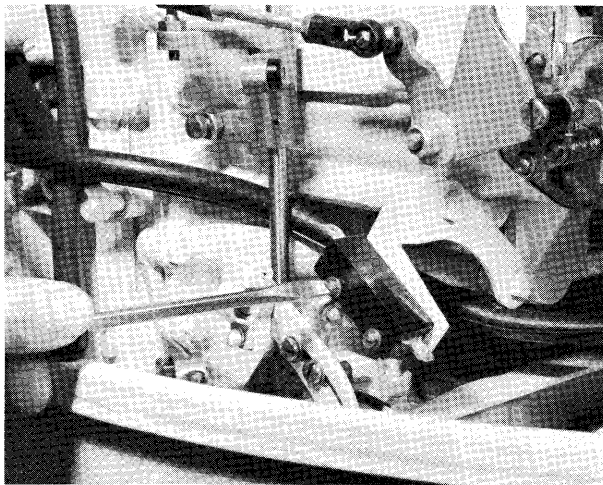

Figure 1 - Removing Interlock Switch
- A. Remove two (2) screws and lockwashers securing lead wires to each end of interlock switch.
- B. Remove two (2) screws and plain washers securing interlock switch to interlock mounting bracket and remove switch. See figure 1.